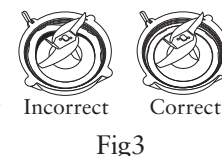

Fig3
3. Ensure the locking sealing ring is fully and evenly tucked in place and holding the blade assembly to the threaded jar bottom. For correct assembly see (Fig3).